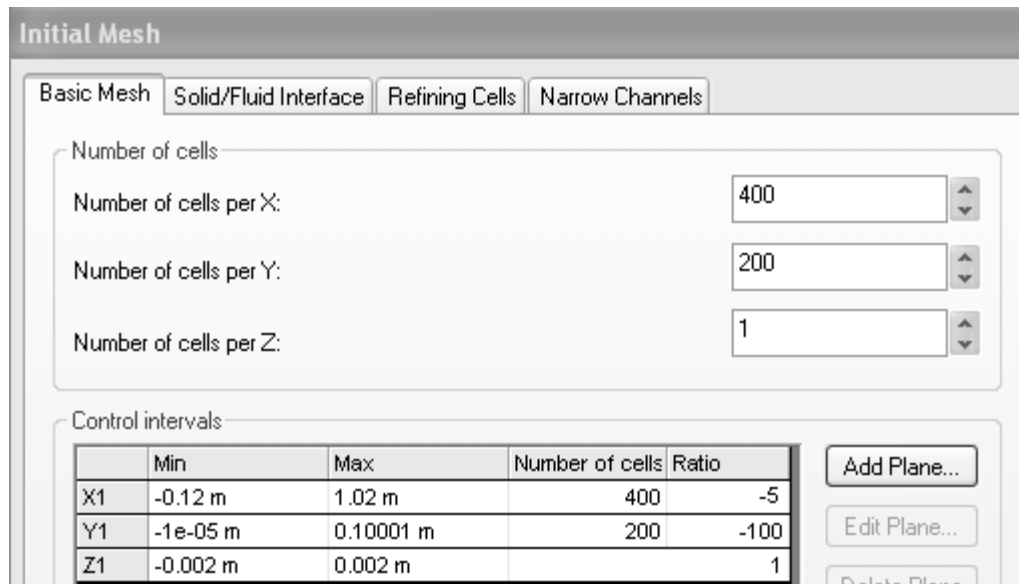

Figure 2.28b) Increasing the number of cells and the distribution of cells
7. Change the distribution of cells using different values of the ratios in the X and Y directions, see figure 2.28b), for the turbulent boundary layer and plot graphs of the boundary layer thickness, displacement thickness, momentum thickness and local friction coefficient versus Reynolds number for different combinations of ratios. Compare with theoretical results.